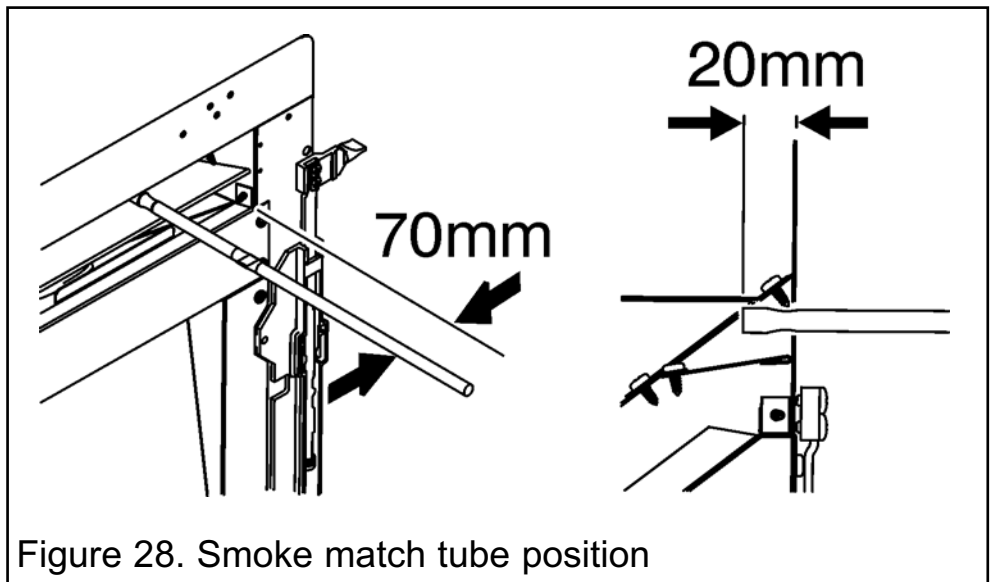

Figure 28. Smoke match tube position
4. The smoke match should be placed horizontally into the top of the down draught air relief opening, 70mm from the right hand side. Insert the smoke match tube up to the neck of its flared end (approximately 20mm) (See figure 28).